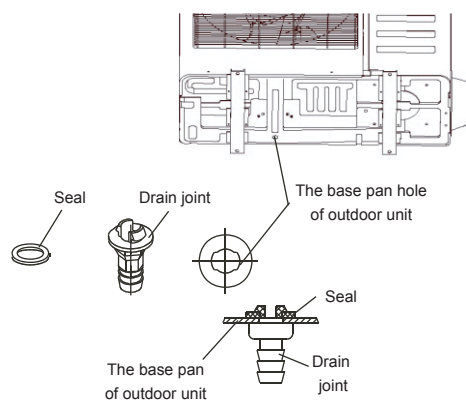

Fig.8-2
- Fit the seal into the drain joint, then insert the drain joint into the base pan hole of outdoor, rotate 90° to securely assemble them. Connect the drain joint with an extension drain hose (Locally purchased), in case of the condensate draining off the outdoor unit during the heating mode.(Refer to Fig.8-2)